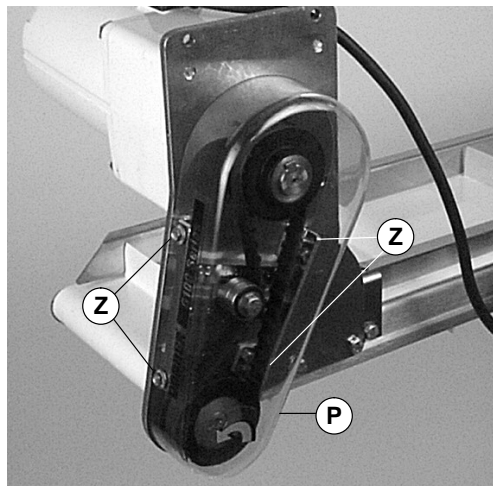

Figure 8
**NOTE: Do not over-tighten screws (Z of Figure 8).**
- Install cover (P of Figure 8) and tighten four (4) screws (Z) to 35 in-lb (4 Nm).